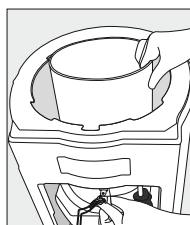

Figure 27
7. Use both hands to loosen the reservoir from the evaporator band and lift it straight through the cooler opening (Figure 27).